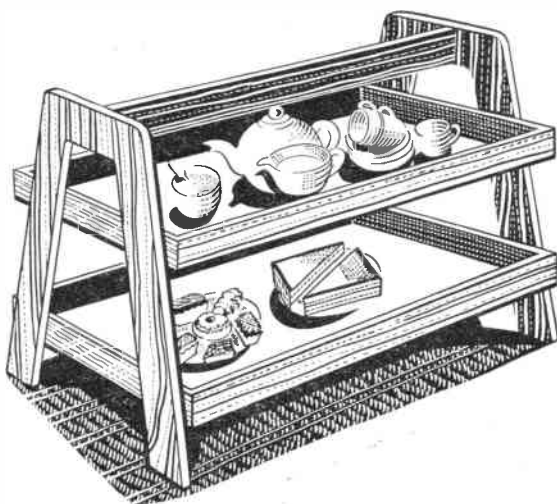

Fig. 1
The two trays are made first, to the dimensions in Fig. 1. The bottom (E) measures 25ins. by 12ins. and is cut from 1/2in. plywood or hardboard.
The sides (C) and ends (D) are only 1in. high and therefore need not be cut from anything thicker than 1/2in. wood. They are butted together at the corners and secured with pins and glue. If you intend to make a mitre joint the end pieces (D) must be longer than shown in Fig. 1.